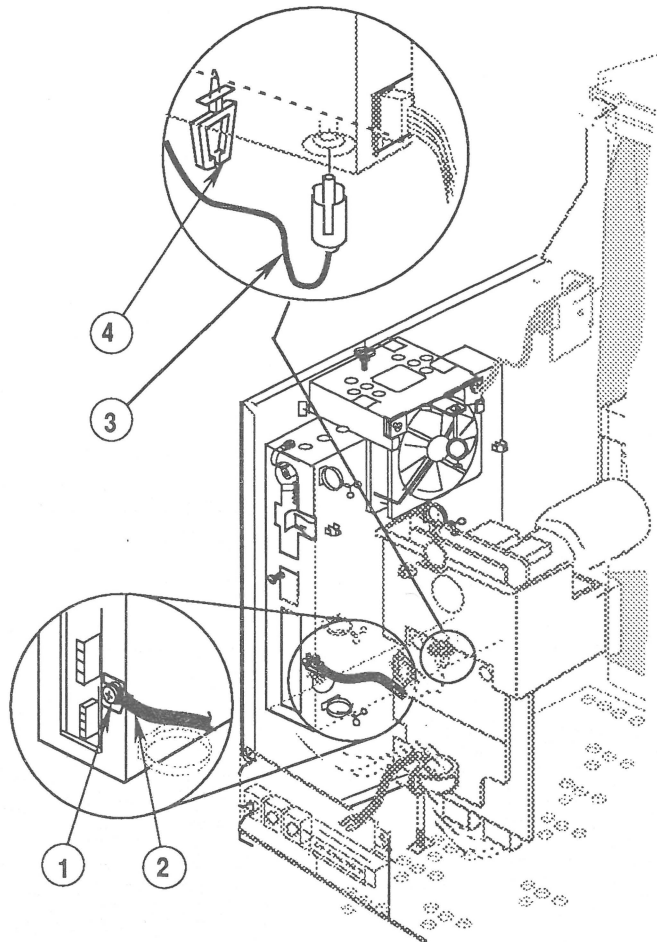

FIGURE 26
5. Loosen the screw (Figure 26, #1) on the video board case, and remove the black ground cable (Figure 26, #2).
6. Remove the video cable (Figure 26, #3) from the cable clamp (Figure 26, #4) beneath the video board case, and disconnect the cable from the video board.